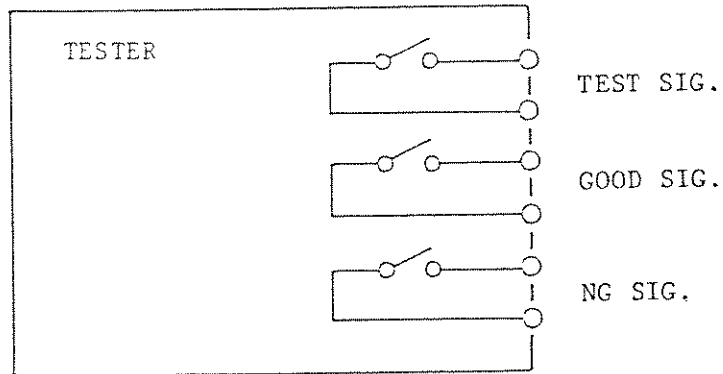

Figure 4.10
① TEST	During test period	Make-contact signal Ratings: 100 V AC, 1 A 30 V DC, 1 A
② GOOD	For 200 msec when test is over
③ NG	When NG judgement is made
① TEST ON signal: This signal is generated and remains on for the entire period of the test.
② GOOD signal: This signal is generated when the GOOD judgement is done at the end the test with the timer. The signal lasts for approximately 200 msec.
③ NG signal: This signal is generated when the NG judgement is done. The signal lasts until the next RESET signal is applied.
(2) Contact Signals
- ① The contact signals are only with contacts and without any power sources as shown in Figure 4.10. Therefore, they cannot drive any loads which have no own power sources.